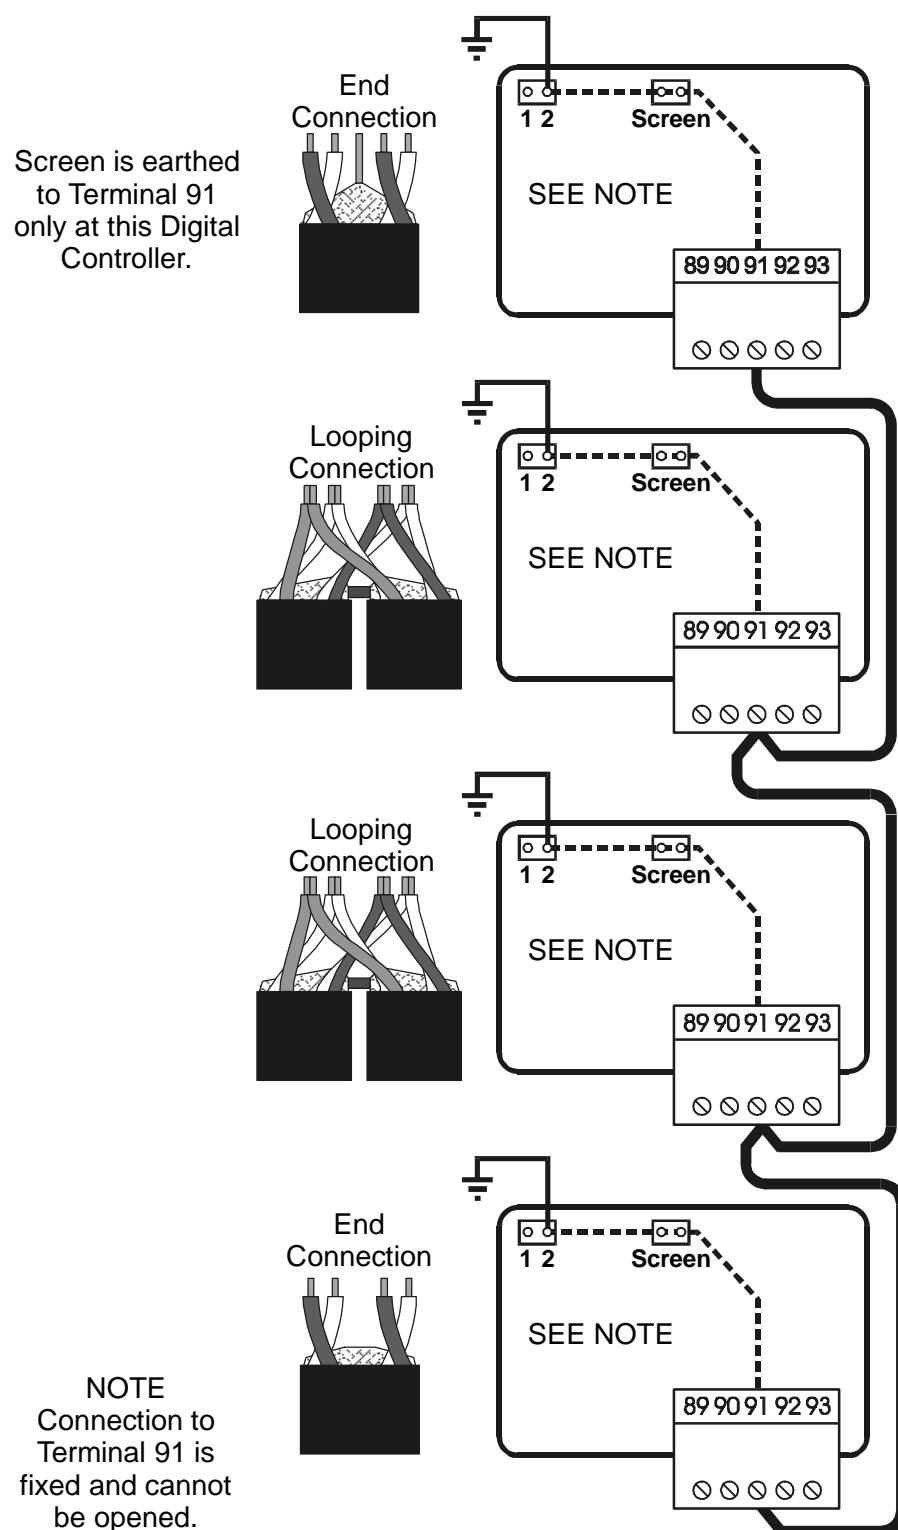

Figure A-13. Genesis I Non-Isolated Comms.
**A-4.2.8. Genesis I Non-Isolated Comms.** Because Genesis I Digital Controllers do not have links between the RS485 ICs and the Comms terminals, the Comms terminals are permanently connected to the Digital Controller Common and to Terminal 2. Therefore, the screen(s) of the Comms cable(s) must be connected to Terminal 91 of only one Digital Controller, as shown in the Figure A-13.
At looping connections the screens must be joined externally as shown in Figure A-13. The screen must not be connected to the terminal at an end connection that is not the earthing point for the screens.